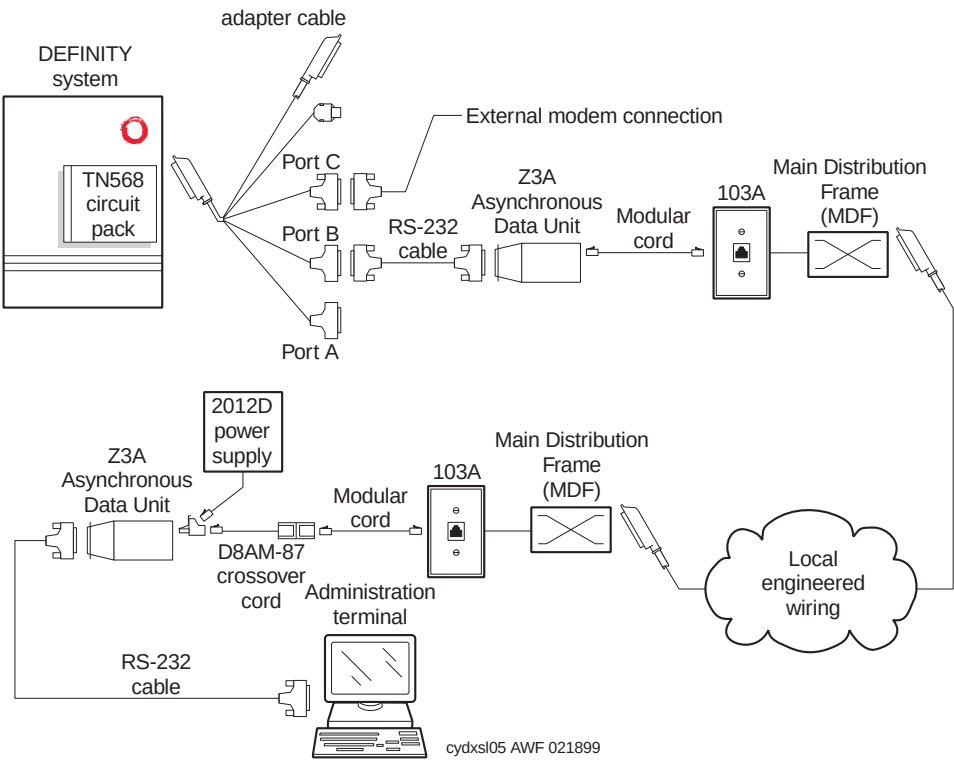

Figure 2-9. Installing an Additional Administration Terminal to DEFINITY AUDIX via ADUs
Refer to Figure 2-9 when performing this task.
1. In the room where the switch and DEFINITY AUDIX system are located, connect the Z3A-4 ADU to the DEFINITY AUDIX system and a telephone jack as shown in Figure 2-9.
- c. Connect the equipment as shown in Figure 2-9. (The Z23A ADU power supply can be connected to either ADU.)